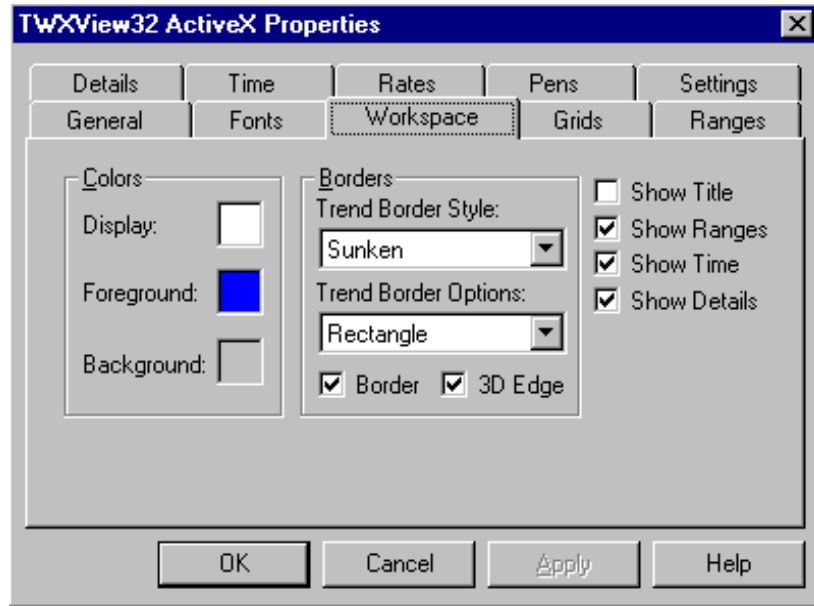

Figure 14-8: TWXView32 ActiveX Properties Dialog Box: Workspace Tab
2. Select the Workspace tab (Figure 14-8).